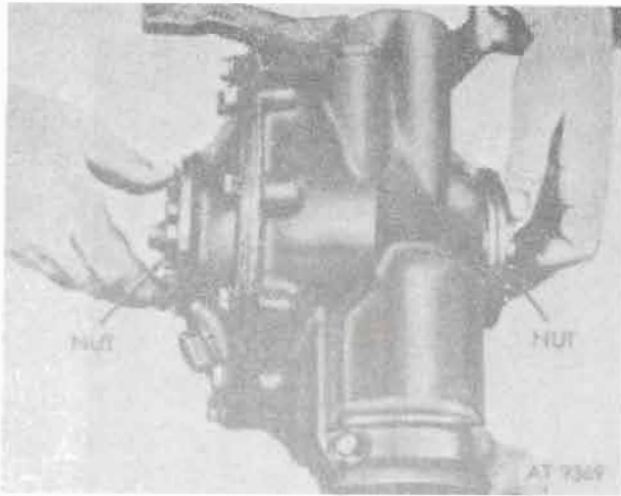

Figure 12-50. Differential case bearing cups adjusting nut.
c. Install adjusting nuts approximately the same number of turns on each side (fig. 12-50).